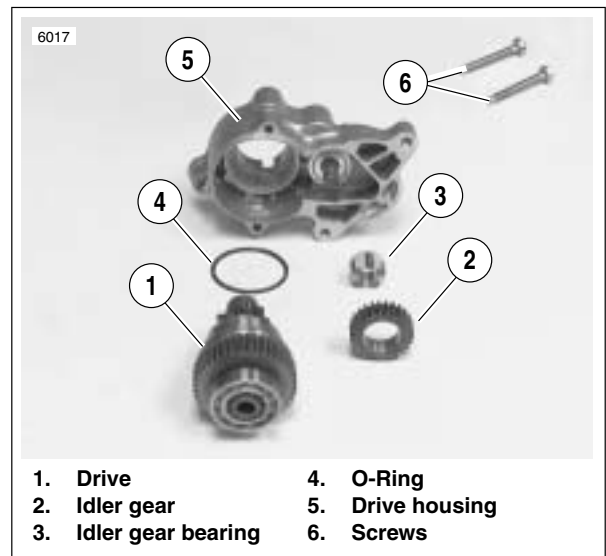

Figure 5-24. Starter Drive Assembly
- a. Touch one probe to holder plate (1).
- b. Touch the other probe to each of the positive (insulated) brush holders (2).
15. See Figure 5-24. Remove two drive housing mounting screws (6). Remove drive housing (5) from solenoid housing.
16. Remove drive (1), idler gear (2), idler gear bearing (3), and o-ring (4) from drive housing (o-ring is located in drive housing groove).
1. See Figure 5-24. Clean, inspect and lubricate drive assembly components. Lubricate parts with high temperature grease, such as LUBRIPLATE 110.